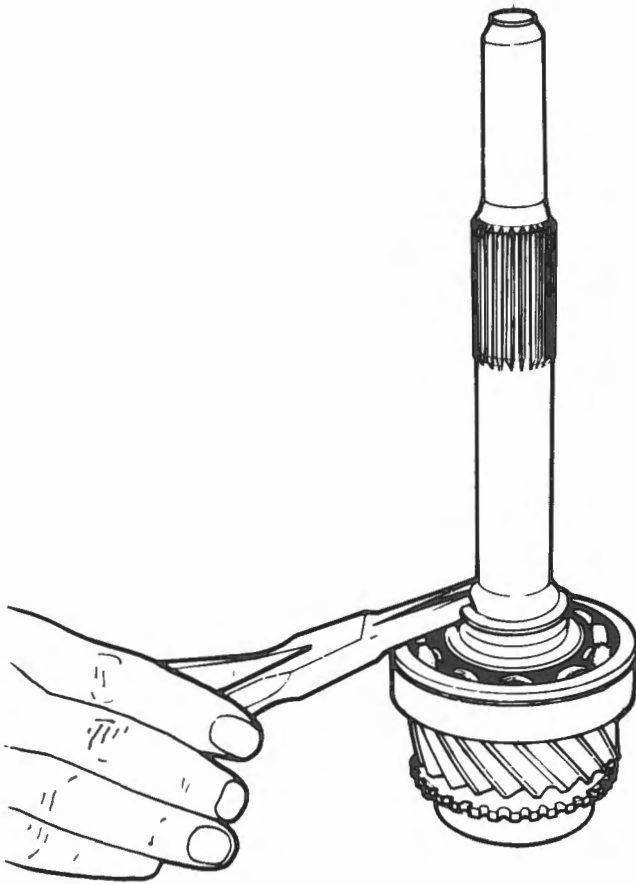

Fig. L-17
- (b) Remove circlip and spacer from input shaft. Fig. L-17.